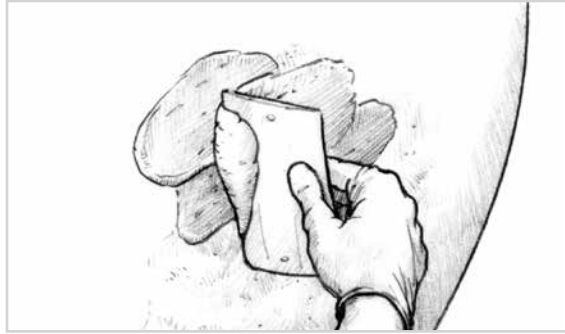

Figure 14-5 Use a spreader to apply fairing compound, and slightly overfill the area. Shape the mixture to blend with the surrounding contour.
4. Trowel the mixture on with a plastic spreader. Fill the low areas to just above the fair level so the fairing compound can be sanded back down to fair without having to be refilled. Use the spreader to smooth the compound as close as possible to the desired shape to avoid excessive sanding after the mixture has cured (Figure 14-5). The contour of small areas can often be judged by eye. When filling voids over 1/2" deep, it's best to apply the mixture in two or more layers to avoid excessive heat build up from the exothermic curing reaction. Apply the second layer after the first layer has partially cured.